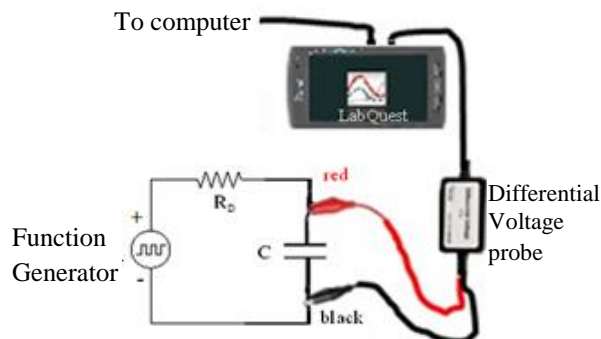

Fig. 3. RC series circuit for determining C .
1. Construct a RC series circuit using the identified capacitor on the board (**making sure the capacitor only**) and a variable resistor set from the decade box as shown in Fig. 3. Choose a resistance in the decade box, R_D , in table 1.
4. Connect the source output to the RC series circuit and connect the voltage probe across the capacitor with the proper polarity (i.e. to measure the positive voltage on the capacitor) to record the $V_C(t)$ (see Fig. 3).